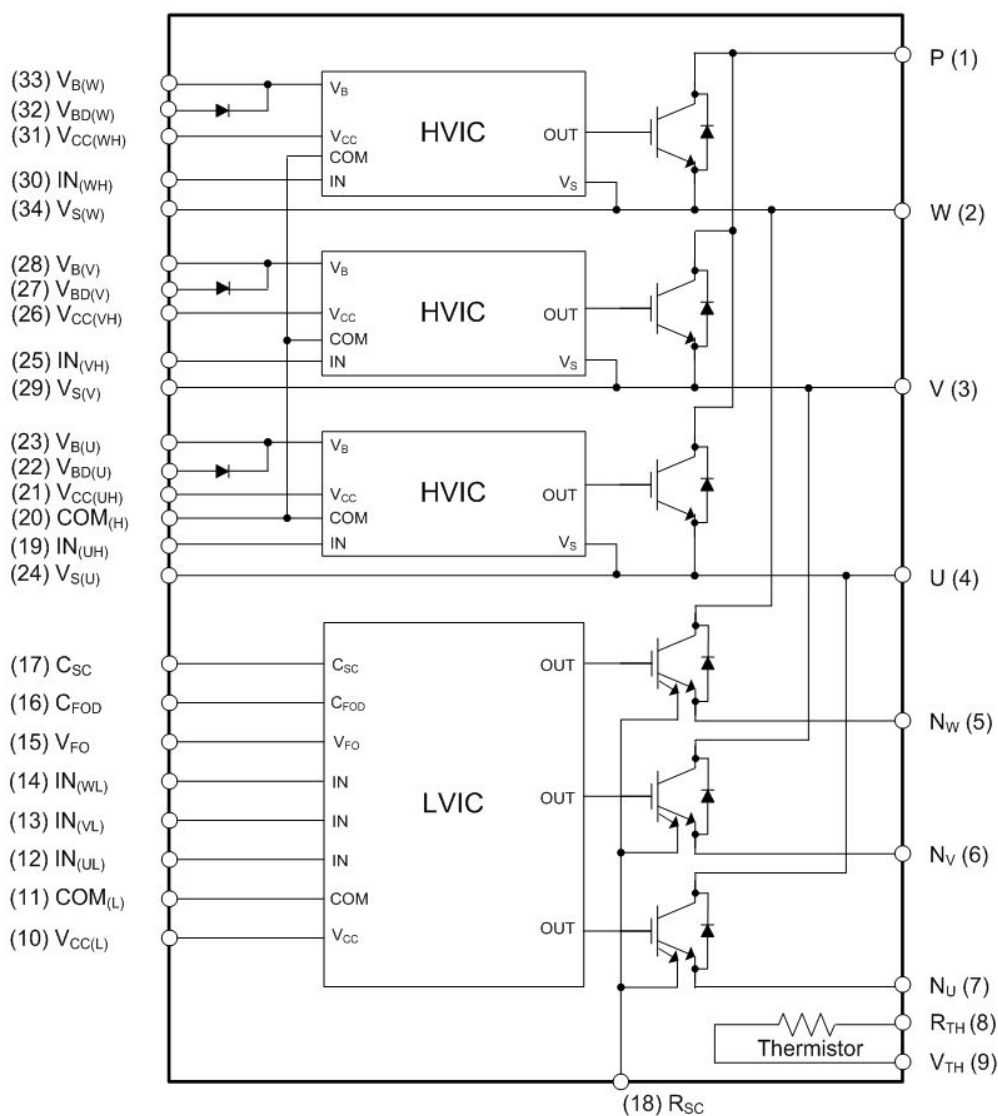

Figure 3. Internal Block Diagram
- 1200 V - 10 A IGBT inverter for three-phase DC / AC power conversion (refer to Figure 3)